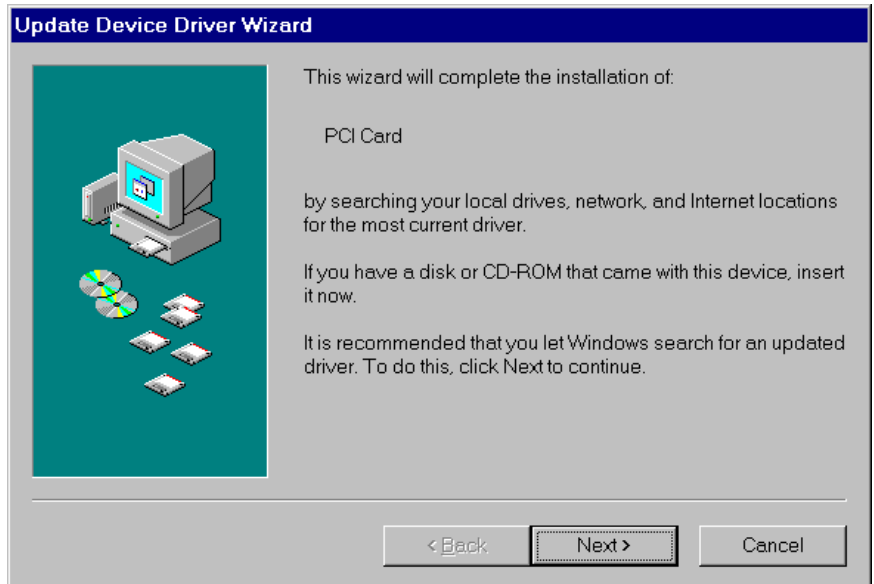

Figure 1. Update Device Driver Wizard for Windows 95
1. Power on the PC and start Windows 95. This will activate the "Update Device Driver Wizard" as shown in figure 1.